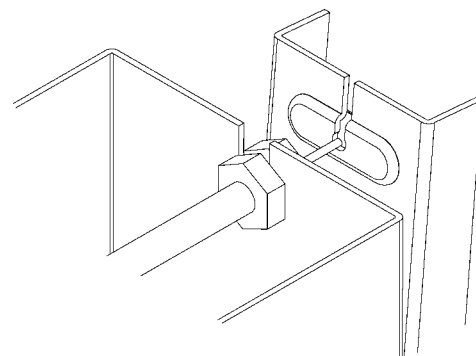

FIG. 6
1. Assemble the operating cable to the fountain bracket. (Fountain should be mounted to exterior wall) Create a loop in the cable and thread the free end of the cable through the wall into the freeze resistant box. The adjustment nuts should be in the middle of threaded area on the operating cable. See Figure 6